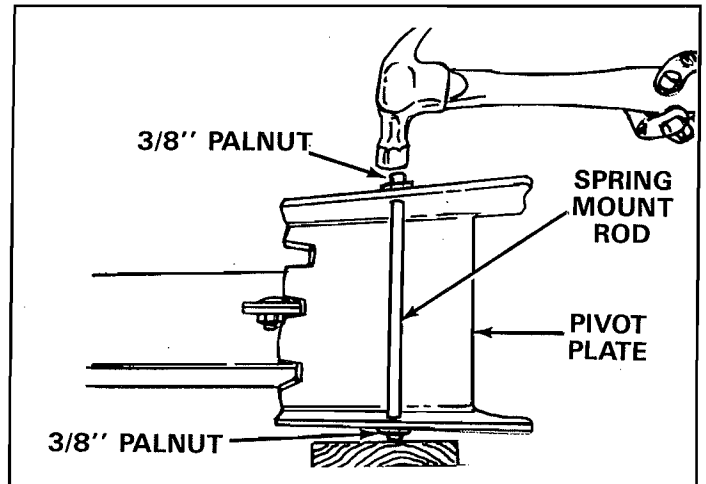

FIGURE 4
5. Using a hammer drive a 3/8" palnut onto one end of spring mount rod. Insert the other end of the spring mount rod through both small holes in the pivot plate. Support end (with palnut) of the spring mount rod with a block of wood and hammer on the remaining palnut. See figure 4.